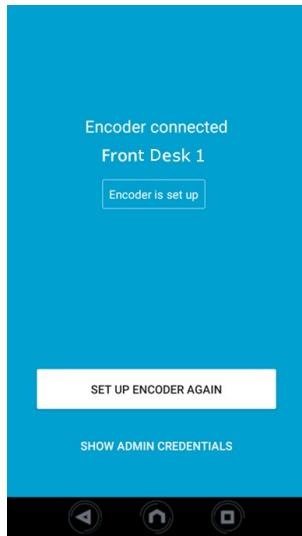

Figure 12
1. If a screen as in Figure 12 is shown instead of Figure 9, the encoder is already set up to the system and has been given the name 'Front Desk 1'.